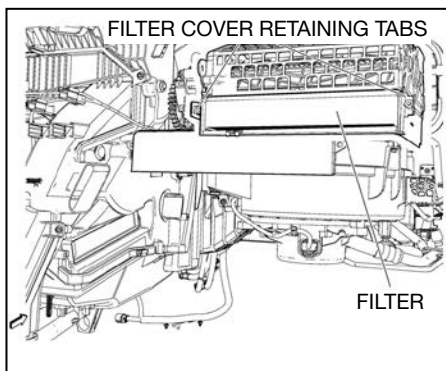

Fig. 14
3. Release tabs on filter cover and remove filter cover (see Fig. 14).